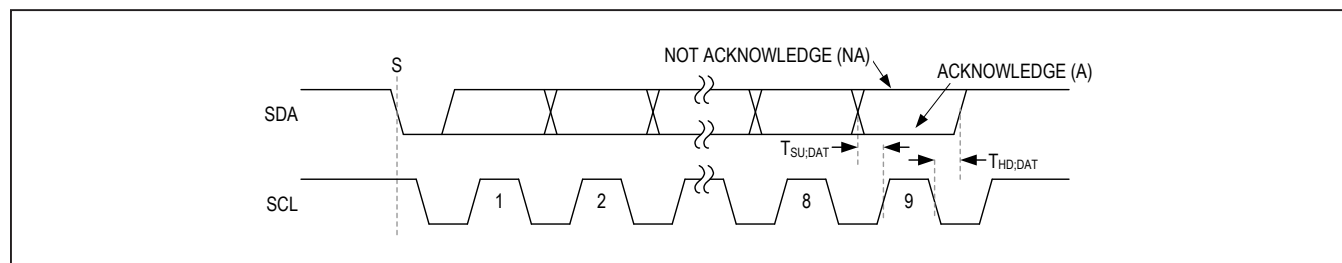

Figure 6. Acknowledge Bit
Both the I²C bus master and the MAX17271 (slave) generate acknowledge bits when receiving data. The acknowledge bit is the last bit of each nine bit data packet. To generate an acknowledge (A), the receiving device must pull SDA low before the rising edge of the acknowledge-related clock pulse (ninth pulse) and keep it low during the high period of the clock pulse. See Figure 6. To generate a not-acknowledge (nA), the receiving device allows SDA to be pulled high before the rising edge of the acknowledge-related clock pulse and leaves it high during the high period of the clock pulse.